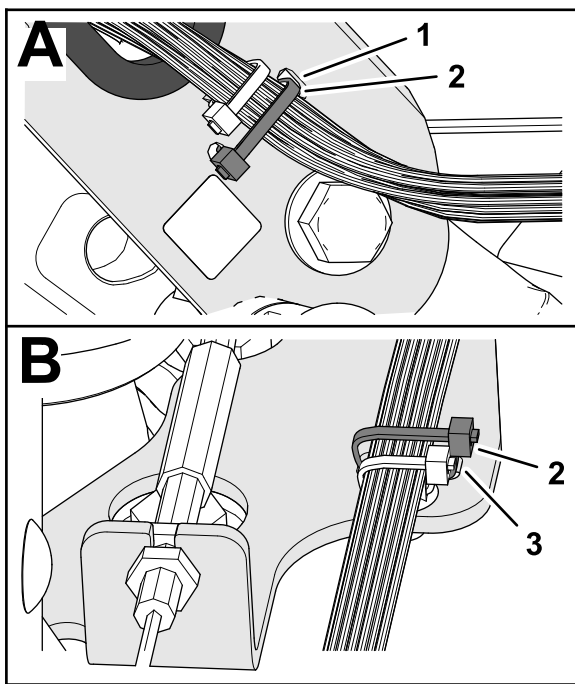

Figure 11
6. Secure the machine harness to the handle-bar channel with a cable tie through the slots in the channel (Figure 11).